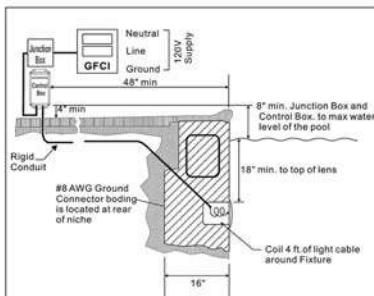

Figure 1
2. The junction box (or, for 12 volt models, the low voltage transformer) must be located at least eight(8) inches above water level, at least four (4) inches above ground level, and at least four (4) feet from the edge of the pool. See Figure 1.
3. The light fixture and all metal items within five(5) feet of the pool must be properly electrically bonded to a reliable point of grounding.
4. The wet niche must be properly installed so that the top edge of the underwater light's lens is at least 18 inches below the surface of the water in the pool. See Figure 1.
5. The wet niche must be properly electrically bonded and grounded via the No. 8 AWG ground connector located at the rear of the niche. See Figure 1.
1. Feed cord through conduit to junction box, leaving at least four (4) feet of cord at the light fixture to coil into the base of the light niche, see Figure 1. The four (4) feet of cord allows the light to be serviced after the pool is filled with water.
2. Cut the cord at the junction box, leaving at least six (6) inches of cord to make connections.
The junction box (or, for 12 volt models, the low voltage transformer) must be located at least eight(8) inches above water level, at least four (4) inches above ground level, and at least four (4) feet from the edge of the pool. See Figure 1.
The wet niche must be properly installed so that the top edge of the underwater light's lens is at least 18 inches below the surface of the water in the pool. See Figure 1. The wet niche must be properly electrically bonded and grounded via the No. 8 AWG ground connector located at the rear of the niche. See Figure 1.
4. Feed cord through conduit to junction box, leaving at least four (4) feet of cord at the light fixture to coil into the base of the light niche, see Figure 1. The four (4) feet of cord allows the light to be serviced after the pool is filled with water.
5. Cut the cord at the junction box, leaving at least six (6) inches of cord to make connections.